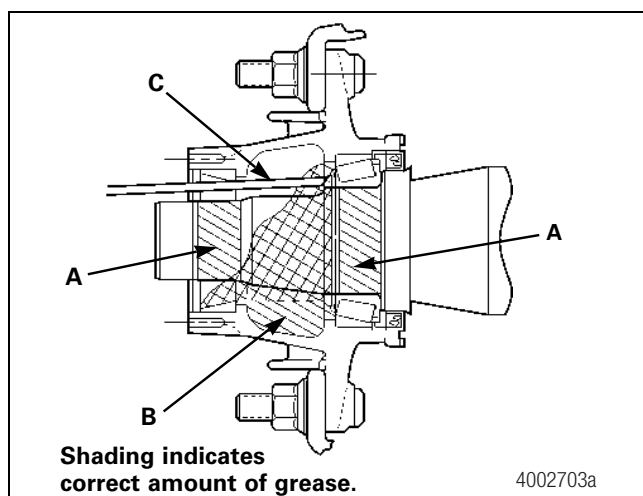

Figure 13.8
- B. Apply a light coat of synthetic grease to the spindle bearing journals. Refer to A in Figure 13.8.
- D. Fill the hub cavity with synthetic grease to the outer cup's smallest diameter. Refer to B in Figure 13.8.
- E. At the top of the spindle and as far back as possible, pump additional synthetic grease until it appears that the grease will run out. Install the outer bearing cone quickly. Refer to C in Figure 13.8.
- F. The hub cavity will be filled approximately 1/3 full with grease, from the four to the eight o'clock positions. Figure 13.8.